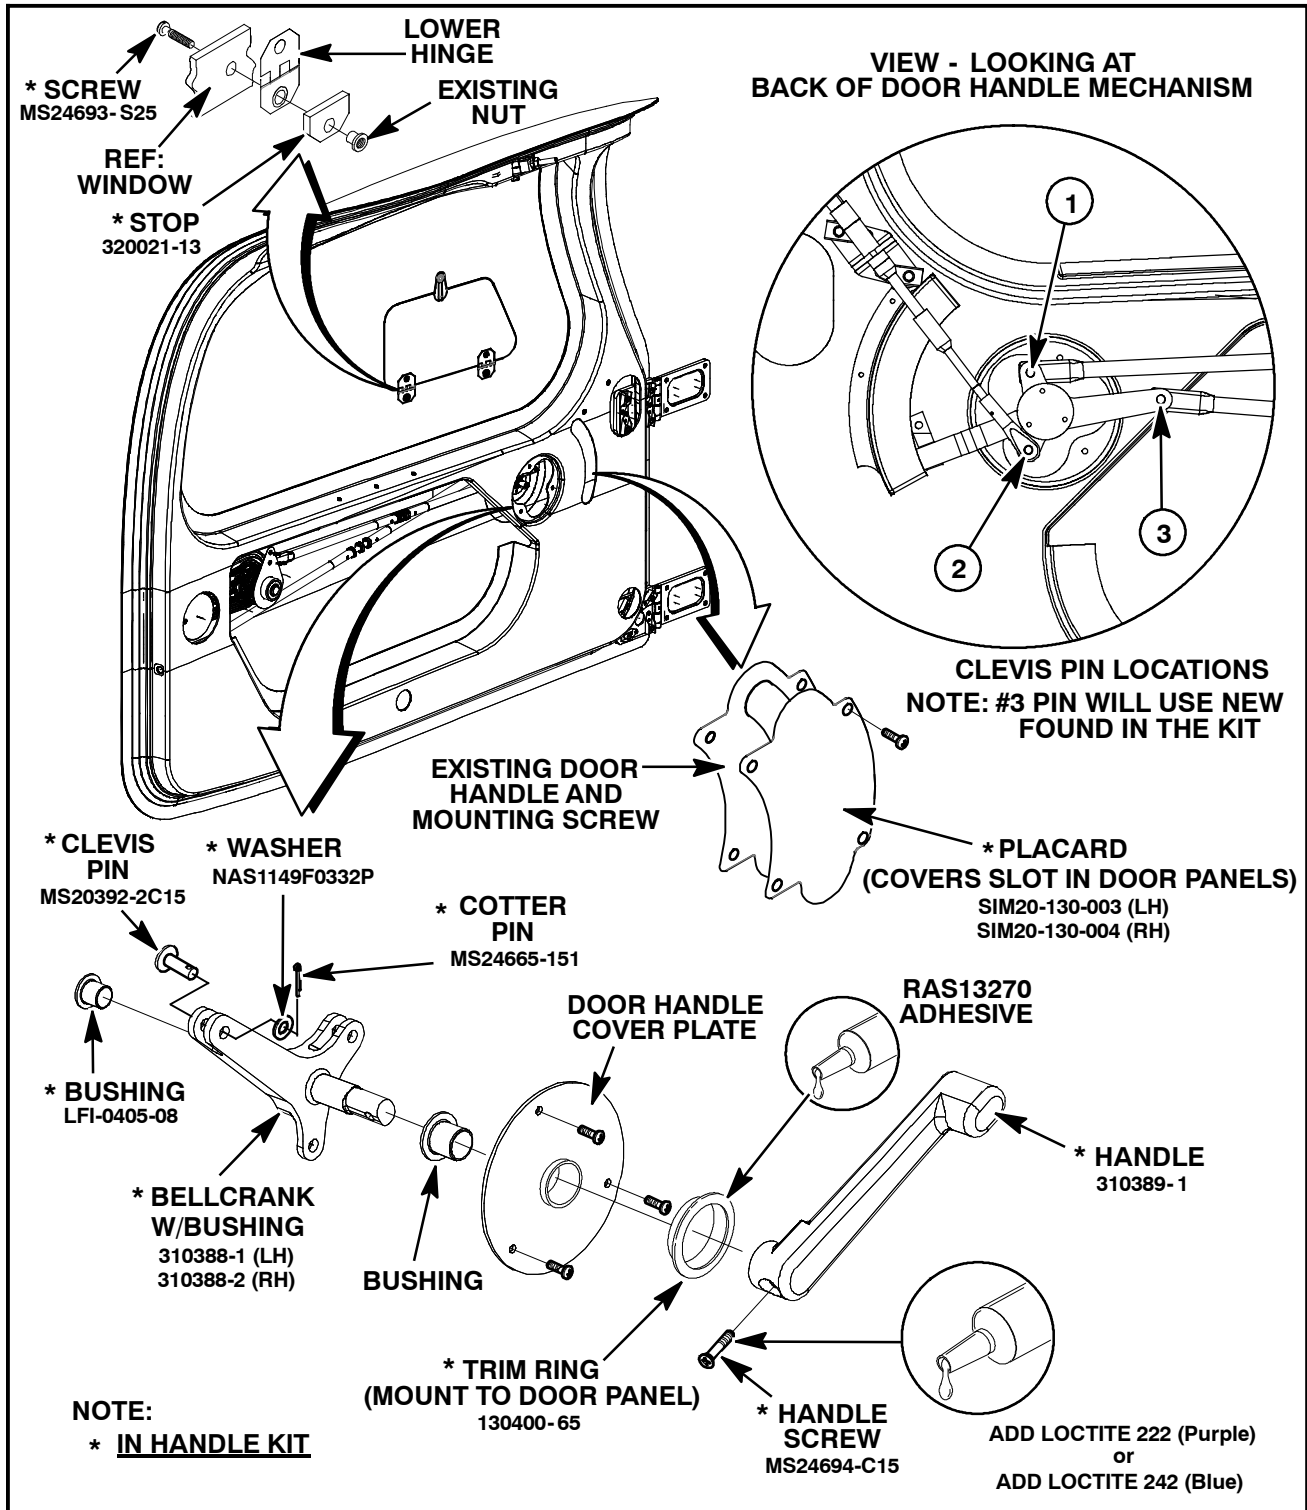

Figure SIM20-130-2 - INTERIOR DOOR HANDLE MECHANISM AND STORM WINDOW
- 1.6. Install new bushing LFI-0405-08 into bellcrank and install into door. Due to tight clearance, it may be helpful to temporarily install clevis pin #3 into bellcrank hole and temporarily secure with a cotter pin before installing into position. Install #1 and #2 clevis pins, washers and new cotter pins. On # 3 clevis, carefully pull temporary cotter pin out, slide clevis pin out far enough to install clevis, push #3 clevis pin thru and add washer, secure with new cotter pin. See figure SIM20-130-2.
- 1.11. Carefully cutout a hole thru panel for bellcrank arm to protrude, see figure SIM20-130-2.
- a. Remove lower hinge screws, see Figure SIM20-130-2.
- c. Secure with (2) new screws MS24693-S25 (use existing nut).